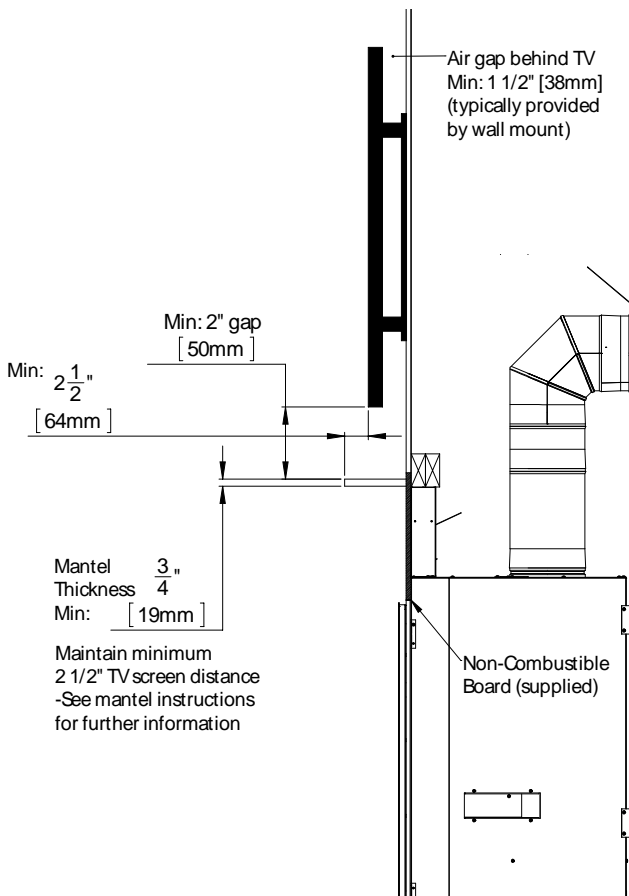

Figure 59: Minimum TV Install
**Mantel Only Installation:** Always maintain minimum clearances (see Figure 59). The total depth of the TV including the wall mount will determine the minimum allowable mantel depth.